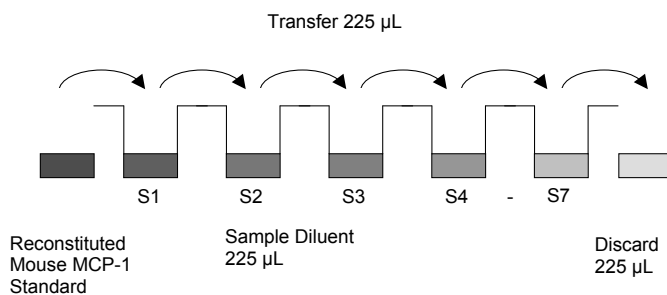

Fig. 6 Dilute standards - tubes
6. Repeat serial dilutions 5 more times thus creating the points of the standard curve (see Figure 6).